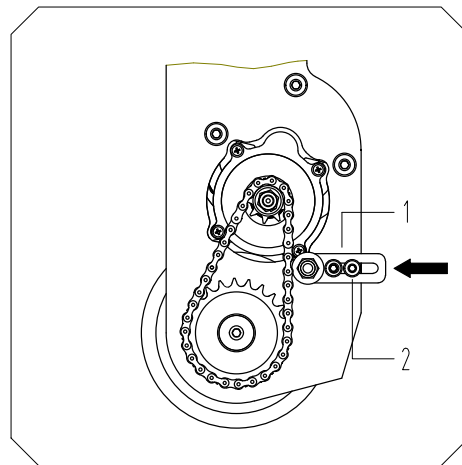

Figure 12
9.3 The driving form of the truck is chain wheel transmission. After having been used for a long time, the chains will be loose, which is a normal phenomenon. Loosen screw (2) which fixes chain tightener (1). Move chain tightener in whole towards arrow direction in Figure 12. press chain and fasten screw (2).